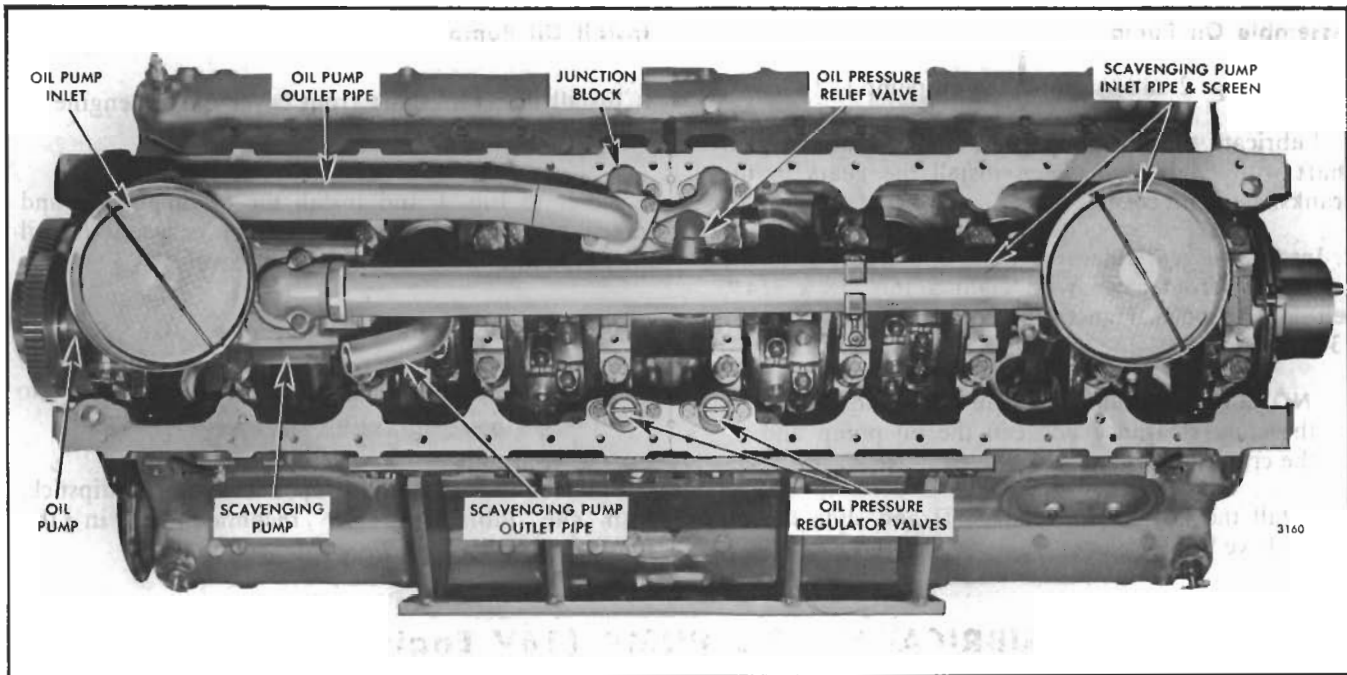

Fig. 3 - Typical Lubricating Oil Pump Rear Mounted (16V Engines)
The gear-type scavenging lubricating oil pump is mounted on number nine and ten main bearing caps at the rear of the engine and is driven by a gear which is attached to the rear crankshaft gear (Fig. 3). On some engines, the oil pump is mounted at the front on the number one and two main bearing caps and is gear-driven by an oil pump drive gear bolted to the front of the crankshaft gear.
3. Remove the inlet and the outlet tube assemblies from the oil pump (Fig. 3) and the scavenging pump.